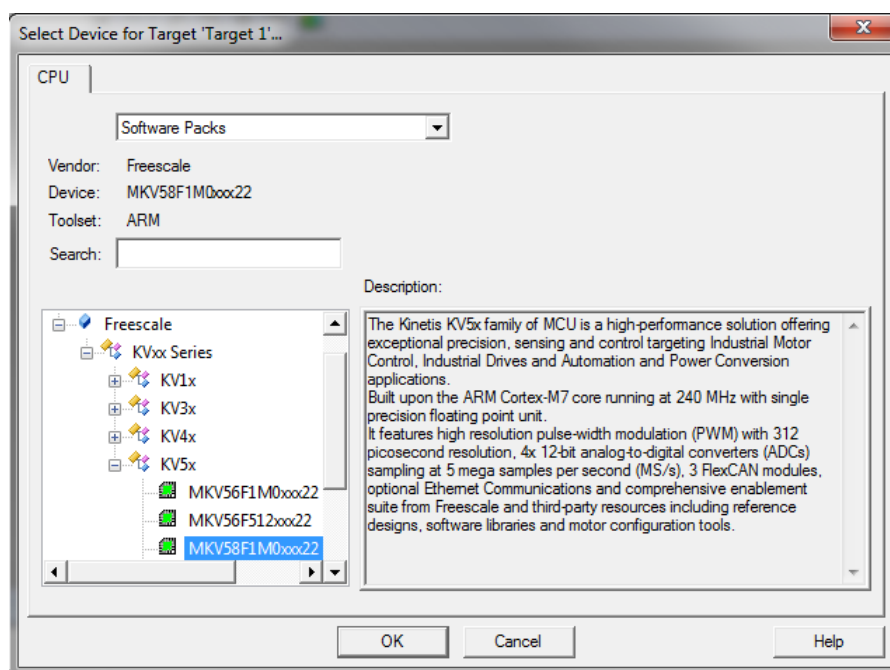

Figure 1-25. Select Device dialog
7. Click the MKV58F1M0xxx22 node, and then click OK. See Figure 1-25.